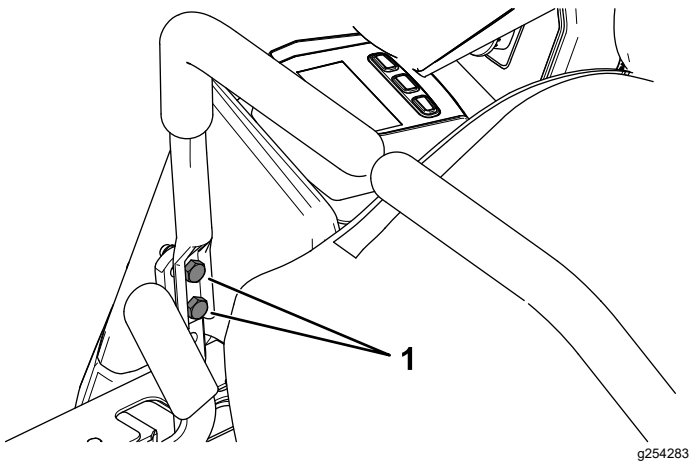

Figure 51
8. If alignment is needed, loosen the 2 motion-control lever mounting bolts on the misaligned side (Figure 51).
10. Tighten the 2 motion-control lever mounting bolts (Figure 51).